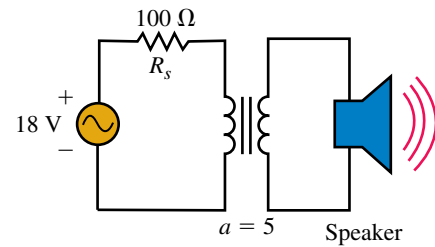

FIGURE 24–37
7. The autotransformer of Figure 24–38 has a 58% tap. The apparent power of the load is 7.2 kVA. Calculate the following: